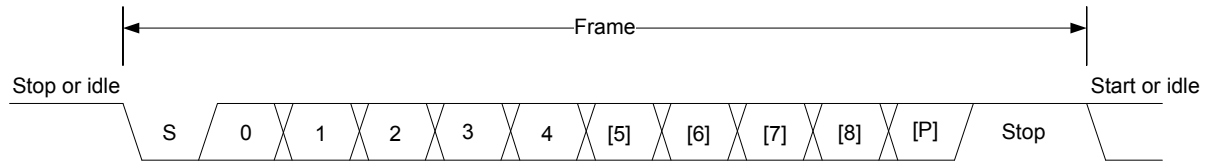

Figure 18.2. USART Asynchronous Frame Format
The frame format used in asynchronous mode consists of a set of data bits in addition to bits for synchronization and optionally a parity bit for error checking. A frame starts with one start-bit (S), where the line is driven low for one bit-period. This signals the start of a frame, and is used for synchronization. Following the start bit are 4 to 16 data bits and an optional parity bit. Finally, a number of stop-bits, where the line is driven high, end the frame. An example frame is shown in Figure 18.2 USART Asynchronous Frame Format on page 499.